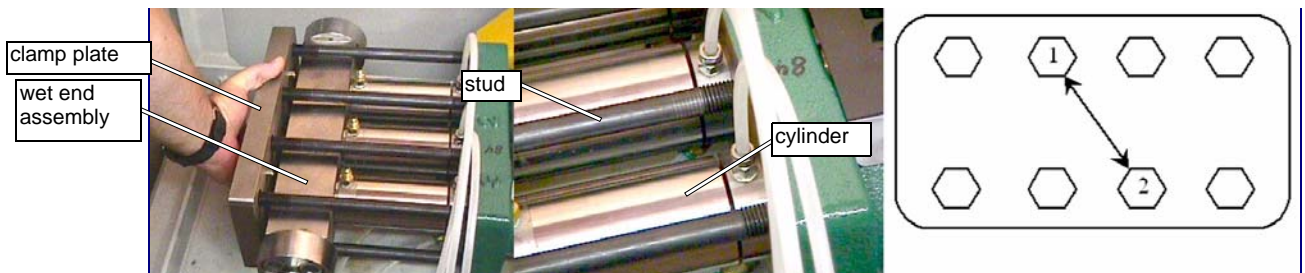

Figure 5-47: Installing the Clamp Plate
10. Install the Clamp Plate and two Nuts on the Studs numbered 1 and 2 in Figure 5-47, using a generous amount of anti-seize compound on both the Stud threads and the face of the Nuts that face the Clamp Plate. Tighten the two Nuts evenly until they are snug. An even gap of approximately 0.070" (1.78 mm) should remain between the end of the Cylinders and the Coolant Housing Assemblies. Install the remaining Nuts hand tight, again using a generous amount of anti-seize on the Stud threads and Nut faces.